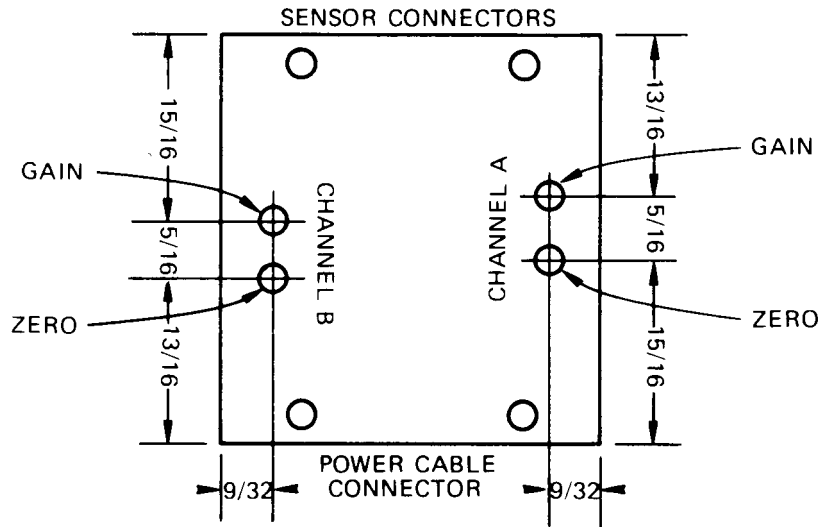

Figure 13 Calibration Cover Dimensions
- 2) Using the adjusting tool, adjust the zero control for axis 1 (Figure 13) for 0.000 volts output.